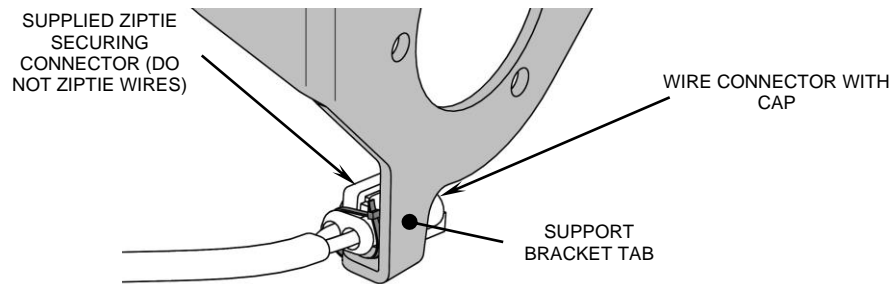

FIGURE 2
5. Place a supplied o-ring onto both supplied breather bolts. Insert the breather bolts through the support bracket openings and into the cylinder heads and lightly snug. Now snug the (3) buttonhead bolts evenly, and then fully tighten them to the throttle body. Tighten the (2) breather bolts.
7. **For 2012 Dyna models** use the supplied ziptie to secure the wire connector/cap to the support bracket tab. See Figure 2. *NOTE: Secure ziptie around the connector, DO NOT ziptie around wires.*